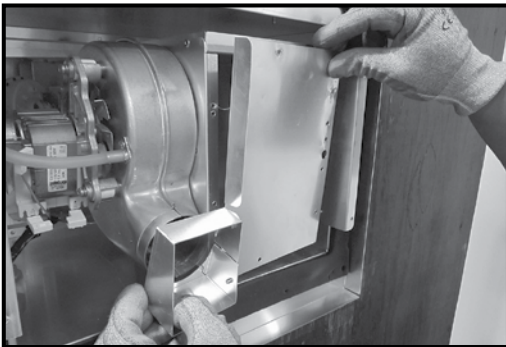

Figure 5.3
2. Remove the nine screws holding the exhaust housing cover. See Figure 5.2. Remove the exhaust housing cover. See Figure 5.3.